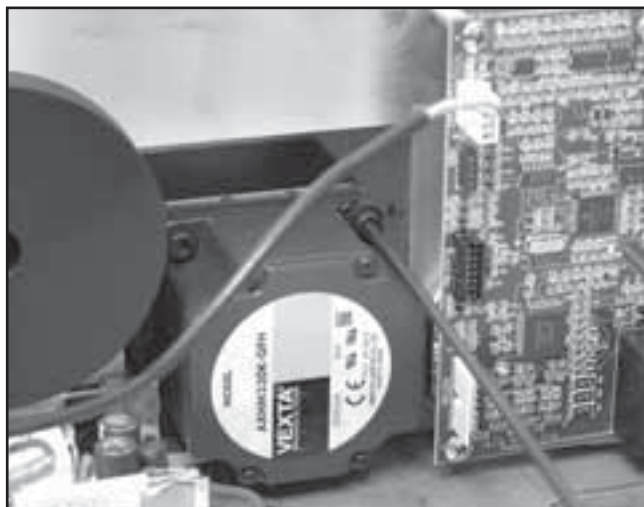

FIGURE 6.57
5. Using the 3 mm Allen Wrench and 7 mm Boxed End Wrench, remove the four Motor Assembly Mounting Screws. See Figure 6.57.